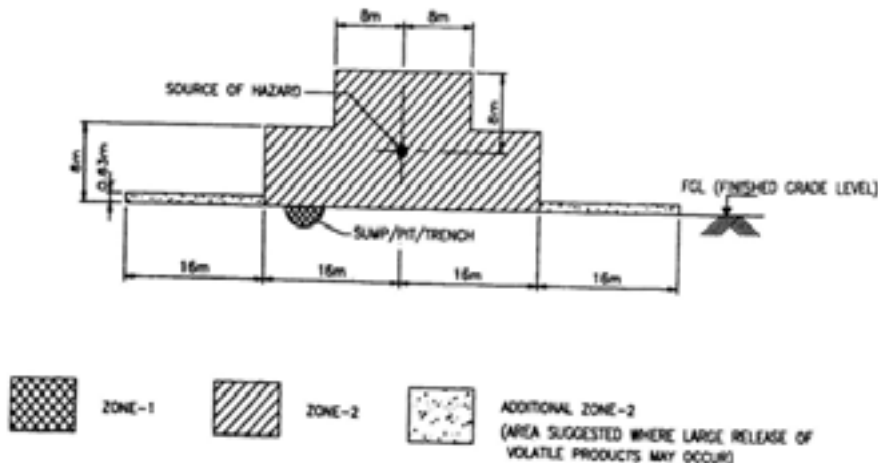
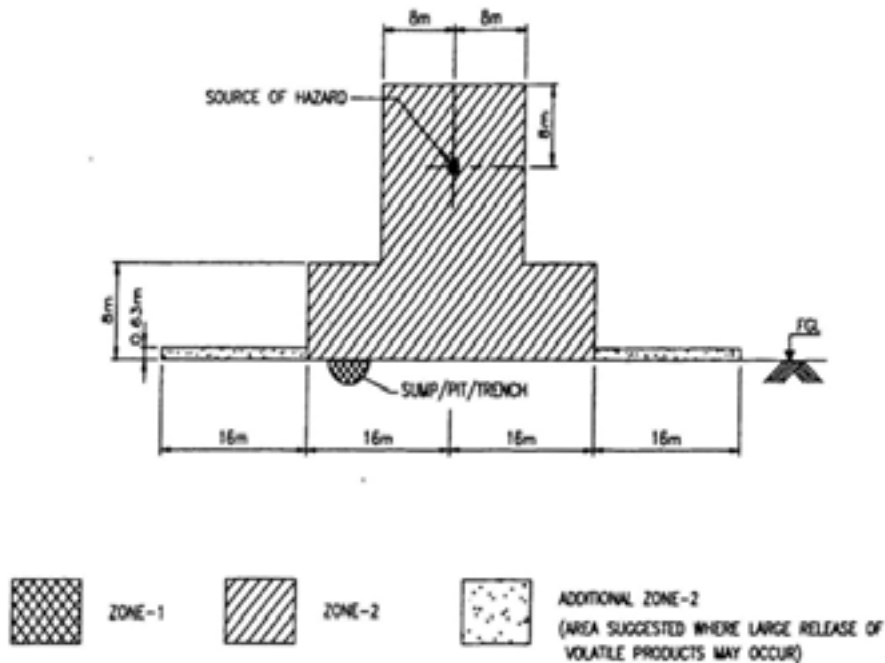

FIG. H1 FREELY VENTILATED PROCESS AREA (HEAVIER-THAN-AIR GASES OR VAPOURS)
FIG. H2 FREELY VENTILATED PROCESS AREA (HEAVIER-THAN-AIR GASES OR VAPOURS)
a) Figures H1 and H2 illustrate the situation when a source of hazard which may give rise to a hazardous atmosphere only under abnormal conditions is located in the open air. The hazardous area should in this case be classified as Zone 2.
If the -source of hazard gives rise to a hazardous atmosphere under normal operating conditions, the area described in Fig. H1 and Fig. H2 Zone 2 should be classified as Zone 1.